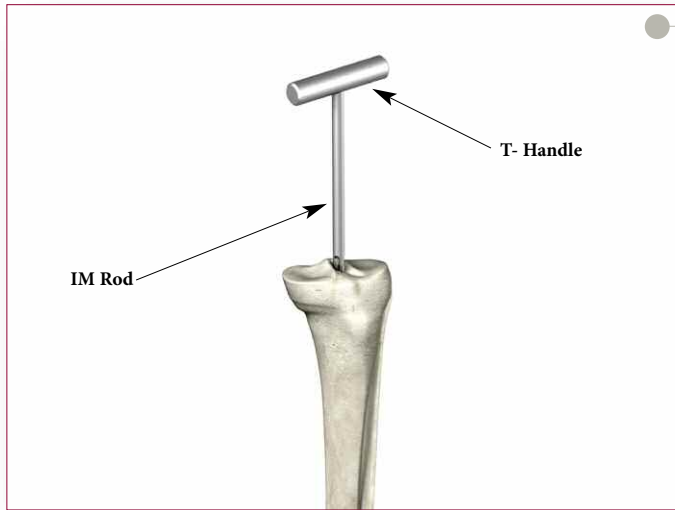

Figure 57
- Introduce the IM Rod into the entry hole and gradually advance it down the intramedullary canal (**Figure 57**). Several steps may be taken to avoid an increase in intramedullary pressure.